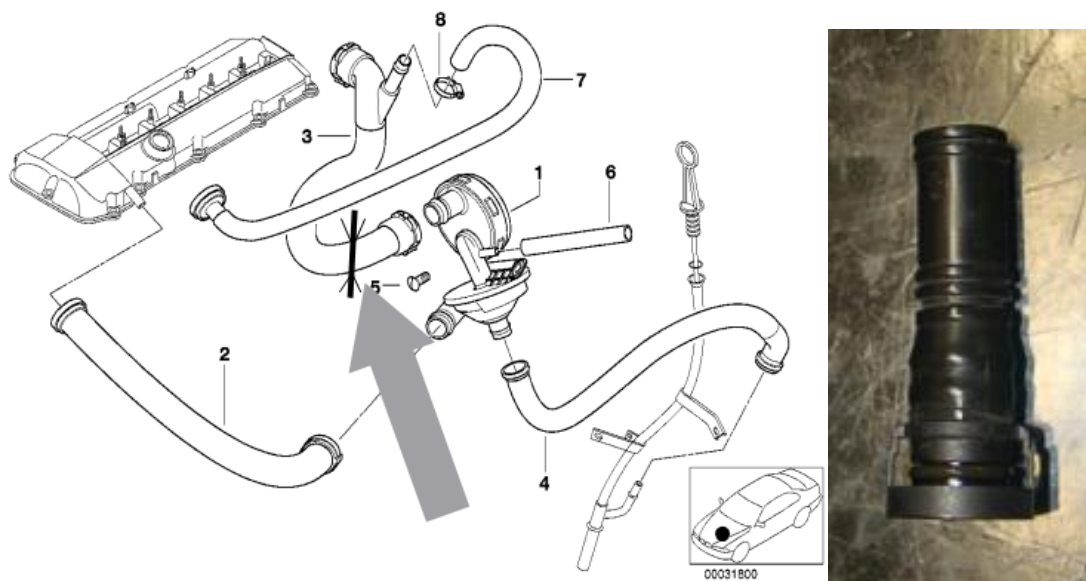
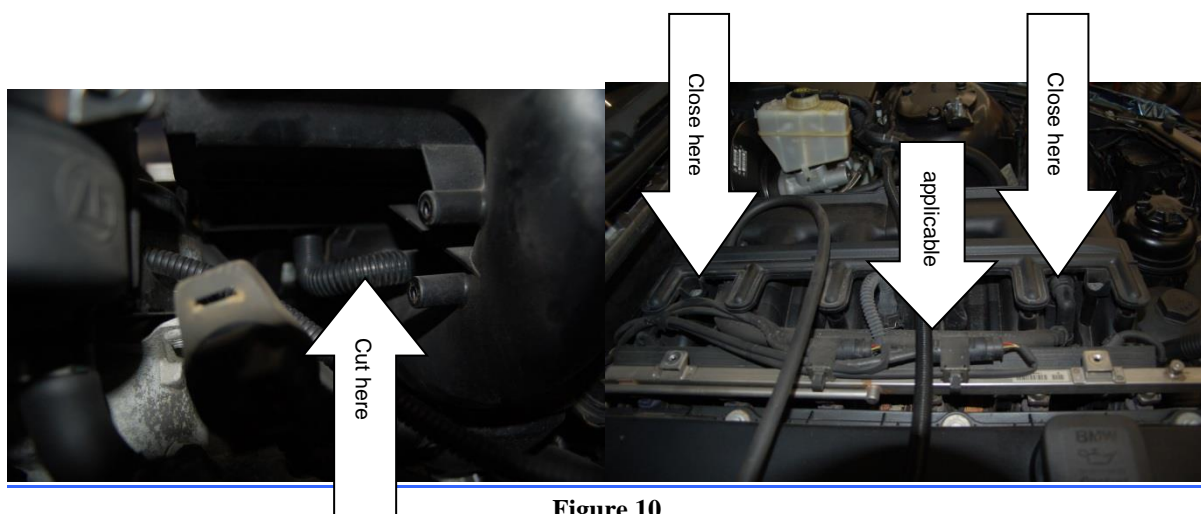

Figure 9
Figure 10
19. Remove the hose (Figure 9, #7) from the intake manifold and close the air intake manifold with the added closing plugs (see P341-53-05 and Figure 10).
20. Remove the plastic hose for crankcase ventilation (Figure 9, #3) and cut it between the intake manifold and separator at the marked position in Figure 9 and Figure 10 while it is still.
21. Remove the connector on the oil separator by rotating it counter-clockwise while pulling it off (Figure 9 when removed). The other side of the shortened hose (Figure 9, #3) is not necessary anymore.
33. Pull out the dipstick and then dismount the measuring tube. You can disconnected the hose from the dipstick (Figure 9, #4) to facilitate the dismantling.